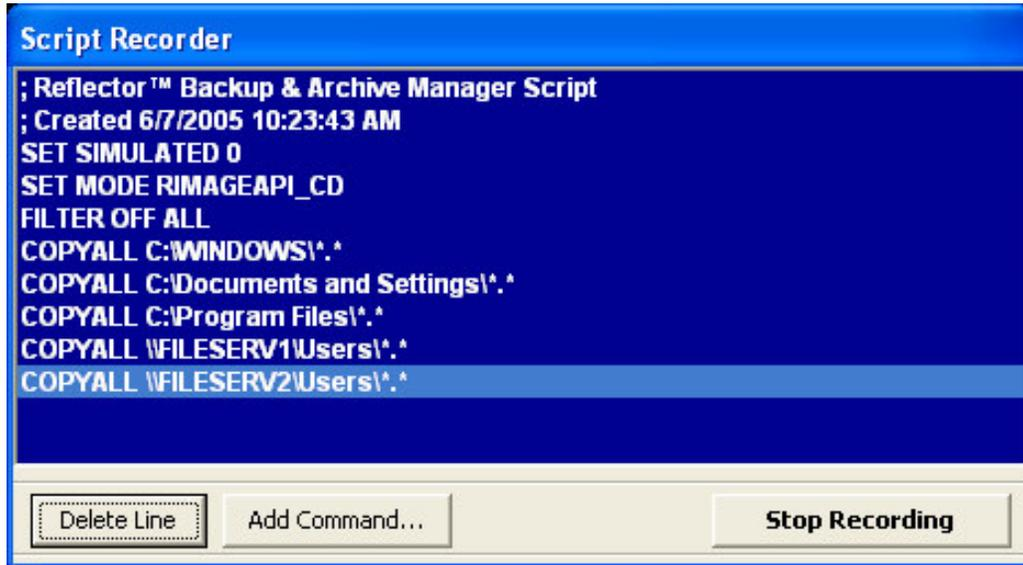

Figure 5: Recording a Script
- A Script Recorder window appears, as shown in Figure 5. As you select files and folders, and specify filters, the details are recorded in the script.